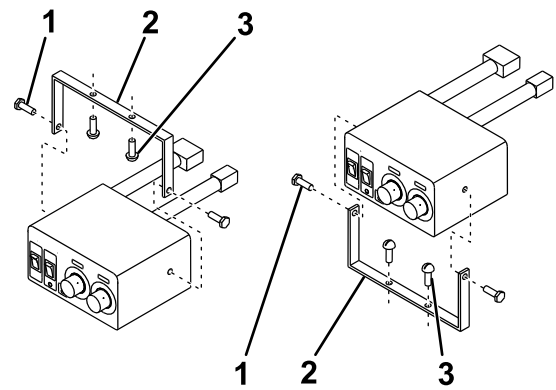

**Figure 13**
11. Step on the leg-assembly wheels to pivot them and stow them under the leg assembly (Figure 13).